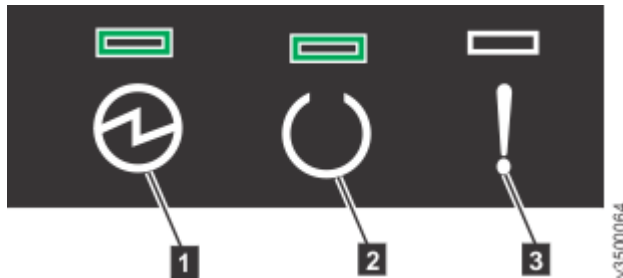

Figure 140. Expansion canister LEDs
2. From the rear of the expansion enclosure, check the LEDs on each expansion canister (see Figure 140 on page 128).